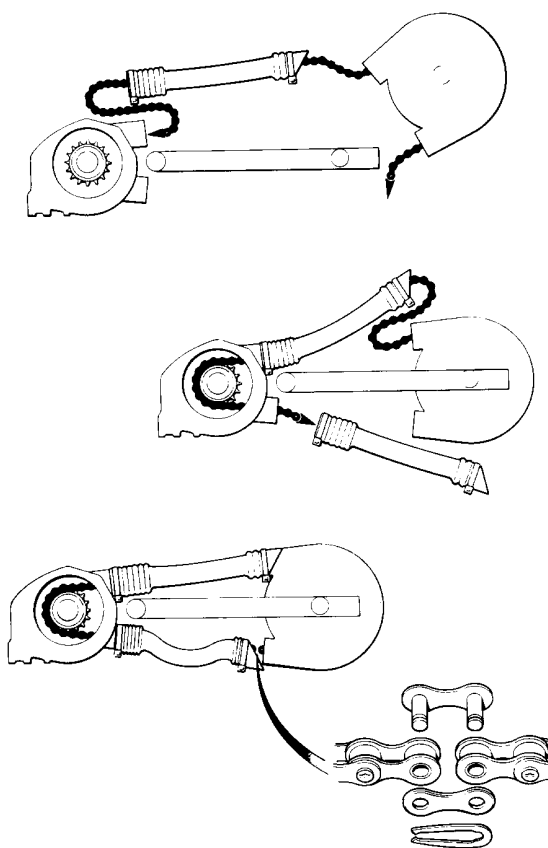

Fig. D8. Replacing the rear chain and gaiters.
To gain access to the gearbox sprocket, first drain gearbox (Section A7) and rear chain oil, (A9) then remove the LH gearbox outer cover assembly. (See Section D5). Remove the oil metering unit and the oil metering unit mounting plate (Fig. B3 and D6). This will give access to the gearbox sprocket. Detach the rear drive chain rubber gaiters from their gearbox end mountings and withdraw from the chain apertures (See Fig. D8).
**NOTE:** If at any time the rear chain has been withdrawn from around the rear wheel drive sprocket, the housing will have to be removed from the swinging arm to allow the chain to be re-engaged. See Fig. D8.
Proceed as described for replacing the chain, but slacken the gaiter clips and remove both gaiters and the chain from around the rear wheel drive sprocket as shown in Fig. D8. It is advisable to restrain the chain from disengaging from the gear-box drive sprocket if the original drive chain is not being replaced. Clean any old sealing compound from the gaiter joint
faces, wash with petrol to remove all traces of lubricant, and apply a good coating of new clear silicone sealing compound. Pass the chain top run through the top gaiter as shown in Fig. D8. Thread the lower chain run through the lower gaiter. Pass the top chain run round the rear sprocket and replace the drive housing. Assemble the gaiters in the sequence shown in Fig'D8 and fit the chain spring link with the closed end in the direction of travel. Close the lower gaiter joint. Fit and lock-up the gaiter clips. Check wheel alignment and chain adjustment as directed in Section D10.